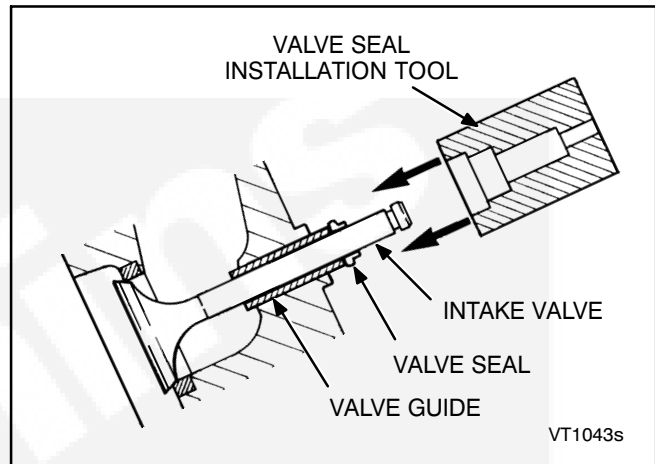

FIGURE 10-11. VALVE SEAL INSTALLATION
4. After insertion, use a special tool made for installing the seal (Figure 10-11) to press the seal into the valve guide until the shoulder of the seal rests against the cylinder head.